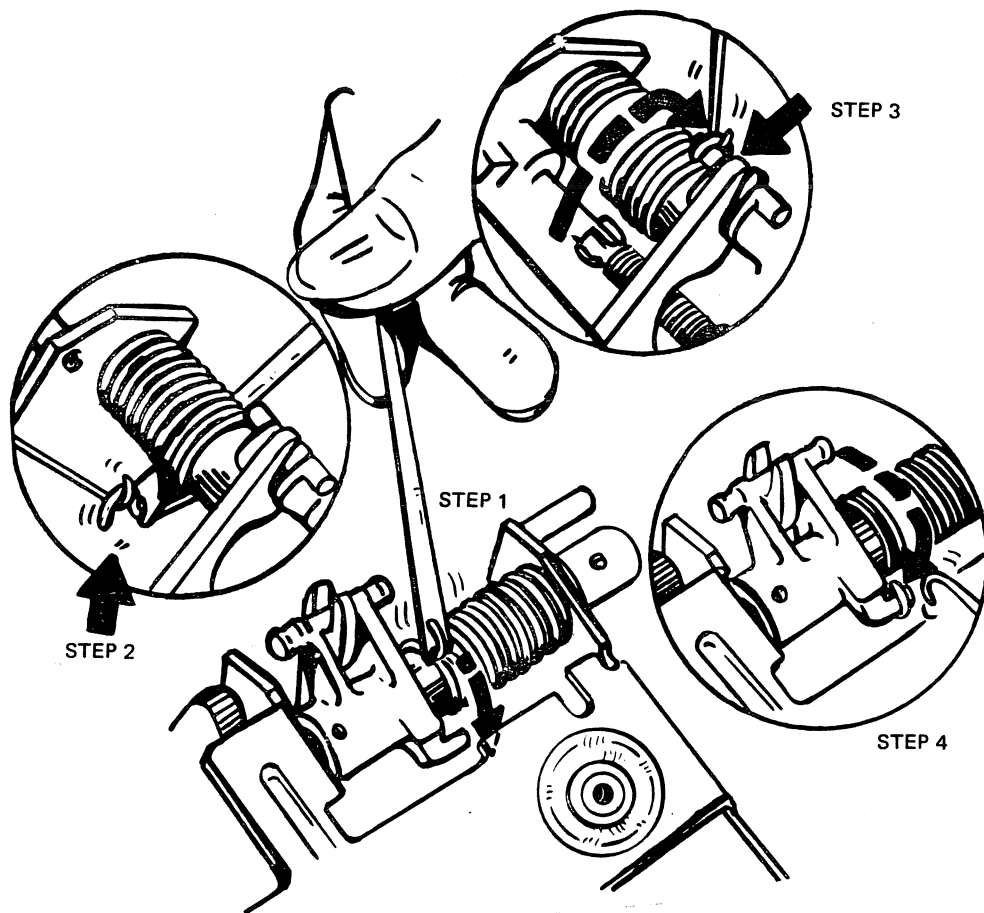

FIGURE 4-40 TENSIONING THE FRESNEL DRIVE SPRING
39. Engage the hook on the end of the Fresnel carrier drive spring with the notched blade of the modified jeweler's screwdriver (Figure 4-40, step 1).
41. Obtain the Special Pulling Tool #11680. Feed the hooked end of the tool under the spring and engage it with the hooked end of the spring. (Figure 4-40, step 2).
43. Temporarily secure the end of the spring on the override spring mounting lug (Figure 4-40, step 3).
44. Put aside the pulling tool and, using the notched-blade screwdriver, push the end of the spring down and secure it on the bell-crank retaining stud (Figure 4-40, step 4).